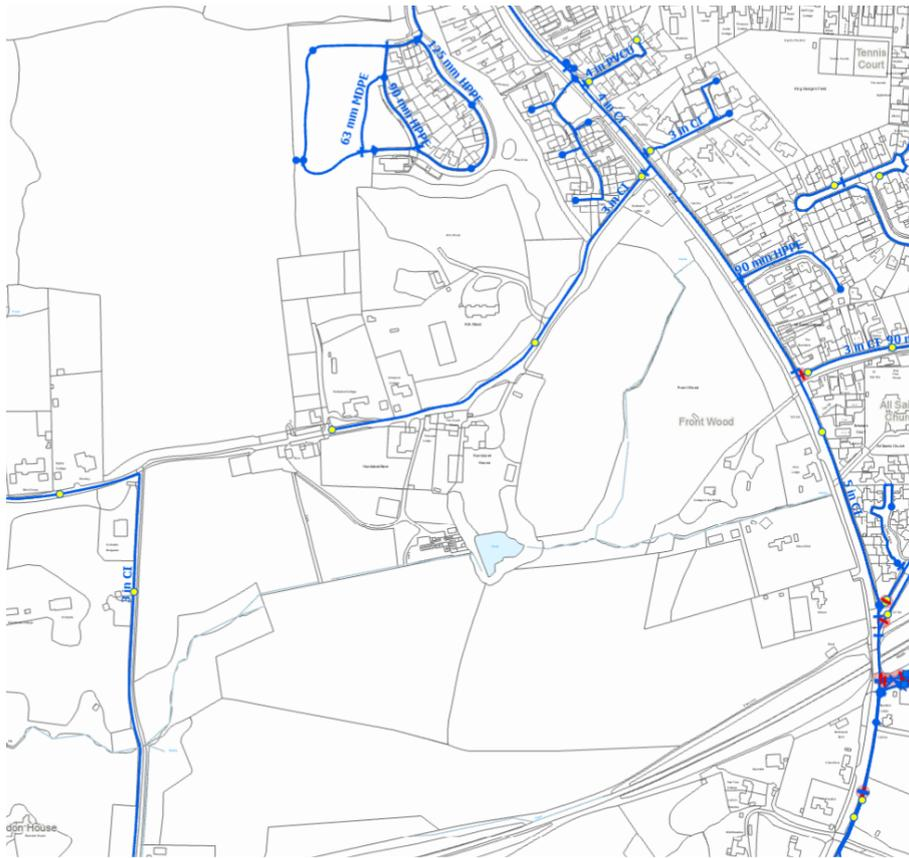

Figure 6: Existing South East Water distribution mains adjacent to the development area
4.7.1 The utility searches and company records do not show water supply infrastructure within the development area (Figure 6). It is therefore assumed that no disconnections are required although ground surveys should be carried out on site to confirm this.
4.7.2 Water supplies in the area are provided by South East Water. Records show a 3 in' cast iron existing water mains serving the properties to the west of the site and 3 in' cast iron pipe routing along the boundary shared with the Huntsland Private Road to serve the existing surrounding properties. A 4 in' mains routes along Turners Hill Road to the east of the site (Figure 6).